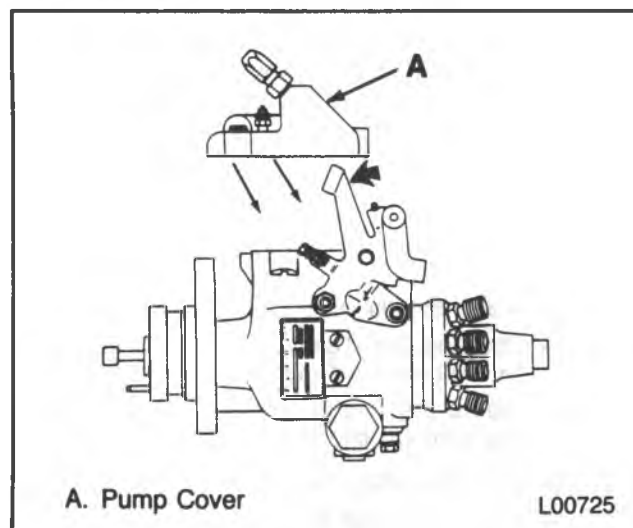

Figure 18 — Installing the Injection Pump Cover
- Position the cover about 6 mm (1/4-inch) forward (toward the shaft end) and about 3 mm (1/8-inch) above the pump (figure 18).
Install or Connect (Figures 18 and 19)
3. New pump cover seal in the pump cover (A) (figure 18).
4. The pump cover (A) (figure 18).